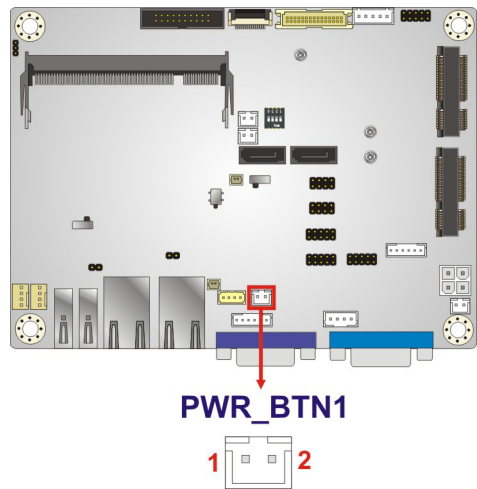

Figure 3-16: Power Button Connector Location
- CN Location: See **Figure 3-16**